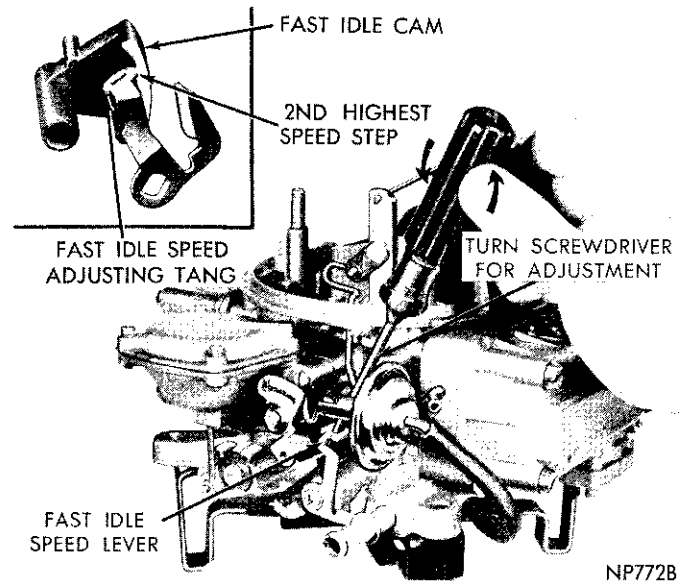

Fig. 20—Fast Idle Speed Adjustment (On Vehicle)
- (1) With the engine off and the transmission in the PARK or NEUTRAL position, open the throttle slightly.
- (2) Close choke valve until fast idle screw tang can be positioned on the second highest-speed step of the fast idle cam (Fig. 20).
- (3) Start the engine and determine the stabilized